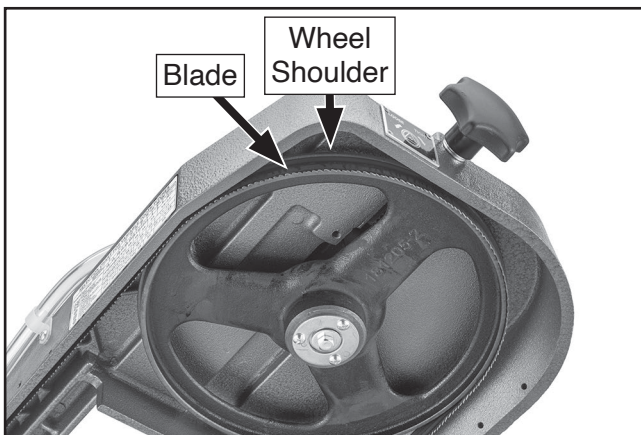

Figure 42. Blade installed on wheel.
12. When blade is around both wheels, adjust position so back of blade is against wheel shoulder (see **Figure 42**).
13. Apply a light amount of tension to hold blade in place. Work around blade to adjust position so back of blade is against shoulder of wheels, as shown in **Figure 42**.